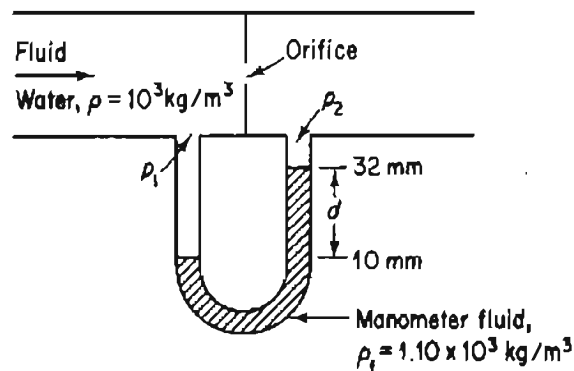

Figure E5.4
In measuring the flow of fluid in a pipeline as shown in Figure E5.4, a differential manometer was used to determine the pressure difference across the orifice plate.
The flow rate was to be calibrated with the observed pressure drop (difference). Calculate the pressure drop $p_1 - p_2$ in pascals for the manometer reading in Figure E5.4.
In this problem you cannot ignore the water density above the manometer fluid. Thus, we apply Equation (5.3) or (5.4), because the densities of the fluids above the manometer fluid are the same in both legs of the manometer. The basis for solving the problem is the information given in Figure E5.4. Apply Equation (5.4)
- a. Air flows in a pipeline. A manometer containing Hg is set up as illustrated in Figure E5.4, and shows a differential pressure of 14.2 mm Hg. You can ignore the effect of the density of air on the height of the columns of mercury.